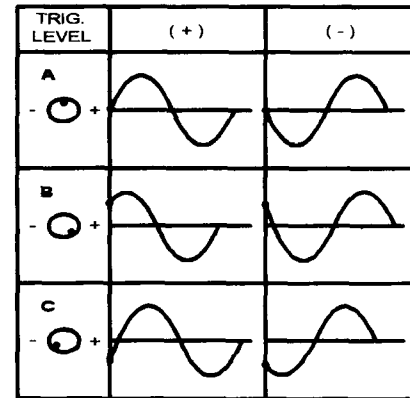

Fig.3. Effects of triggering LEVEL control
To use normal triggering mode, apply a vertical input signal to the INPUT connector (13). Set the scope controls for a basic signal display. Set the MODE switch to the NORM position. The voltage level of the displayed waveform that triggers the horizontal sweep is now controlled by the LEVEL control (8). If the input is a sine wave, the function of the LEVEL control is shown in Fig. 3. With the LEVEL control pushed in (column (+) in Fig. 3) the trigger will occur on the positive-going portion of the waveform. When the LEVEL control is pulled out, the trigger will occur on the negative-going slope of the waveform (column(-) in Fig. 3) When the LEVEL control is moved clockwise, the triggering point will move more positive on the waveform (line B on Fig. 3). If the LEVEL control is turned counterclockwise, the triggering point will move more negative on the waveform (line C on Fig. 3) The display must be at least one division high to obtain proper triggering. Turning the trigger LEVEL control to the extremes may cause the trigger level to be set beyond the voltages of the displayed signal. which will result in cessation of the sweep. In the normal trigger mode, the horizontal sweep will not begin without a trigger. Once the sweep is triggered, it will make one sweep at the rate set by the TIME/DIV. and the SWP.VAR control, then it will wait for the next trigger pulse.